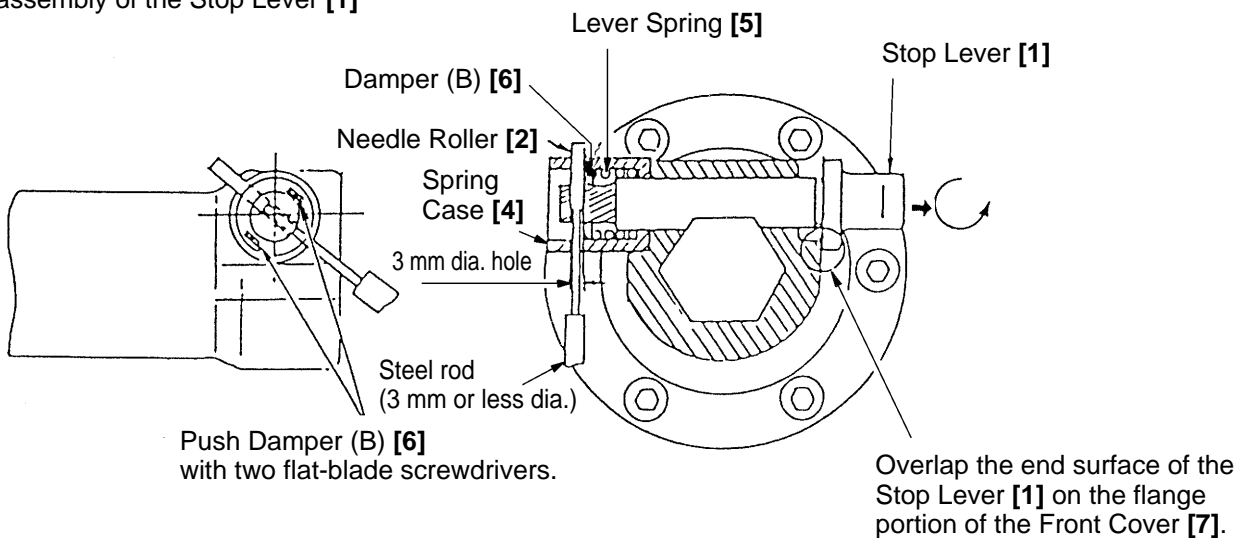

Fig. 9
Disassembly procedures are illustrated in Fig. 9. Pull the Stop Lever [1] outward in the direction indicated by the arrow, and turn it slightly so that its end surface comes to rest on the flange portion of the Front Cover [7]. Next, turn the Spring Case [4] so that the holes of the Spring Case are aligned with the Needle Roller [2]. Then, push in Damper (B) [6] with flat-blade screwdrivers to compress the Lever Spring [5]. Finally, while keeping the Lever Spring compressed, fit a 3 mm or less dia. steel rod into the hole of the Spring Case [4], and push out the Needle Roller [2]. The Stop Lever [1], the Damper (B) [6], and the Lever Spring [5] can then be taken out.